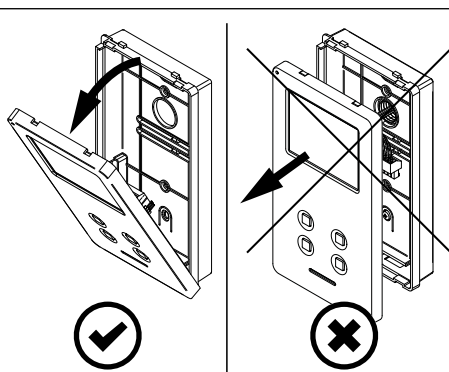

Fig. 2
2. Pull outwards the upper part of the cover as shown in Fig. 2. **Don't pull the cover straight.**